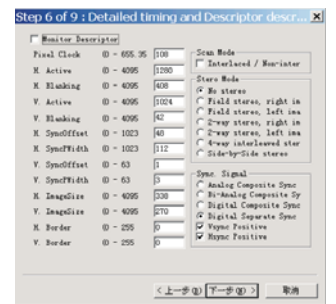

Fig. 40
- 5. Click Next, bring up Fig. 40.
1. Configuration should be as Fig. 40. And press OK.